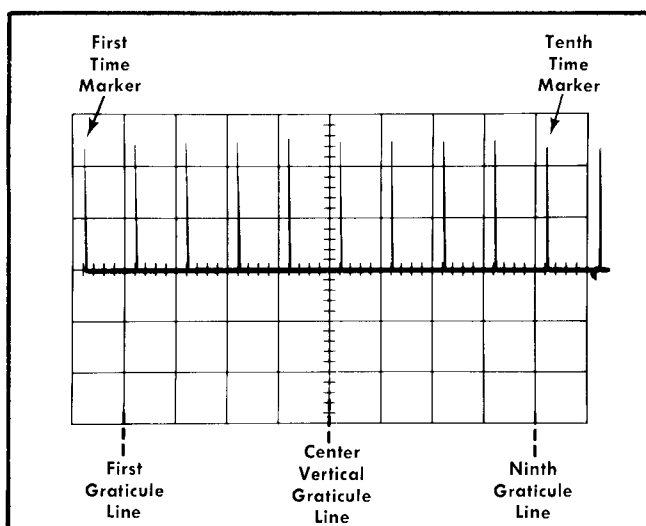

Fig. 5-1. Illustration showing the nomenclature being used.
f. Horizontally position the display so the second time marker is aligned with the first graticule line; see Fig. 5-1.